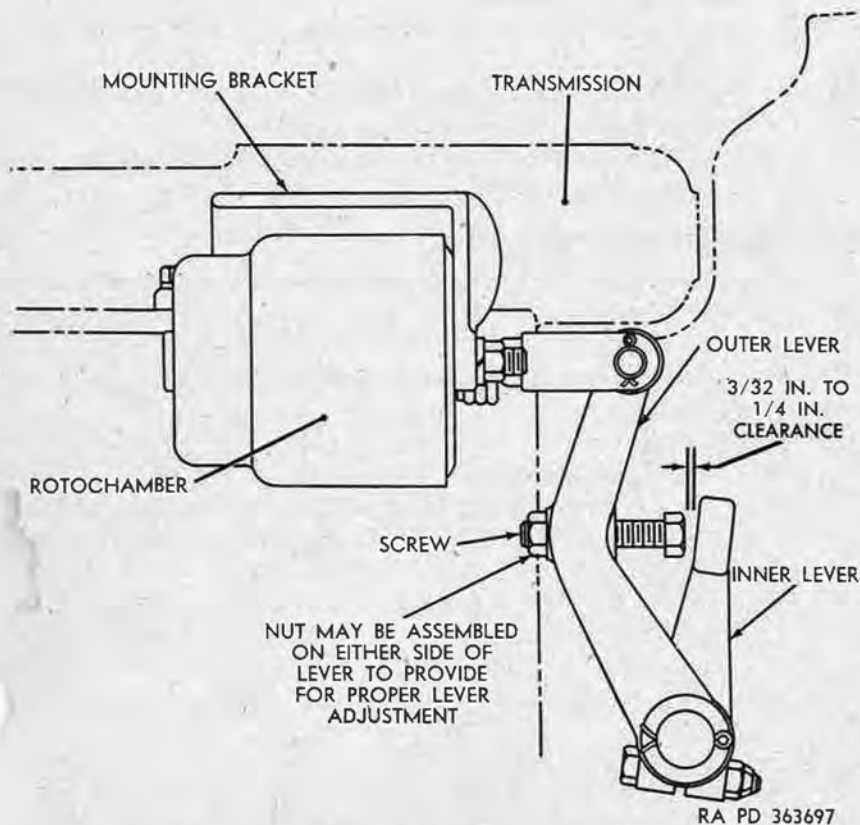

Figure 294. Roto chamber adjustment diagram.
- (1) Check clutch pedal free travel (par. 202) and adjust, if necessary.
- (2) Loosen locknut on adjusting screw installed in clutch release outer lever.
- (3) Turn adjusting screw until clearance between adjusting-screw head and upper end of inner lever is between three thirty-second and one-fourth inch. Figure 294 illustrates point of measurement between adjusting-screw head and inner lever.
- (4) Hold adjusting screw to prevent it from turning, and tighten locknut.